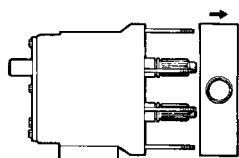

Figure 35 - Remove Pump Body
6. Remove the pump body by pulling it straight off the studs (Figure 35). Use a soft hammer to assist if the body is stuck tight.